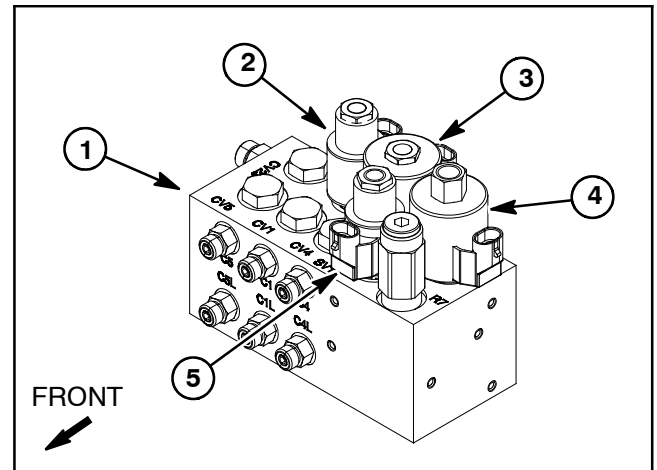

Figure 74
The Reelmaster hydraulic lift control manifold includes four (4) solenoid valves for system control (Fig. 74). When the solenoid coils are energized, hydraulic valve shift occurs to control hydraulic flow. Testing of the coils can be done with the coil installed on the hydraulic valve.
3. Disconnect wire harness electrical connector from hydraulic solenoid valve coil that is to be tested (Fig. 74).